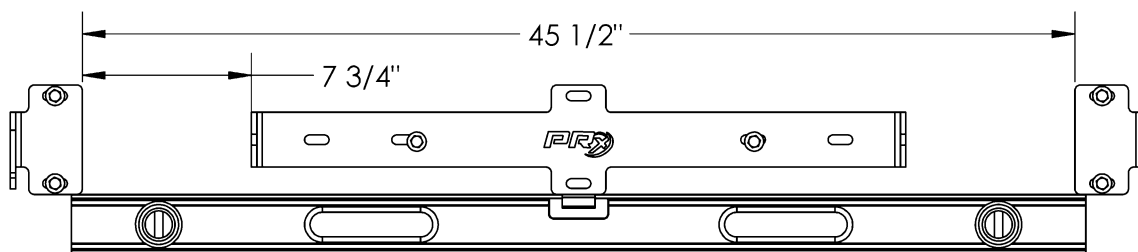

Figure 4: Stabilizer bracket vertical and horizontal alignment
14. Using the tape measure, set the distance from the inside edge of the left wall bracket to the inside edge of the right wall bracket to 45-1/2" (**Figure 4**). Level the wall bracket and fully tighten the lag screws. Do not over tighten the lag screws.
2. Align the bottom tab of the stabilizer bracket with the mark from step 1 (**Figure 4**).